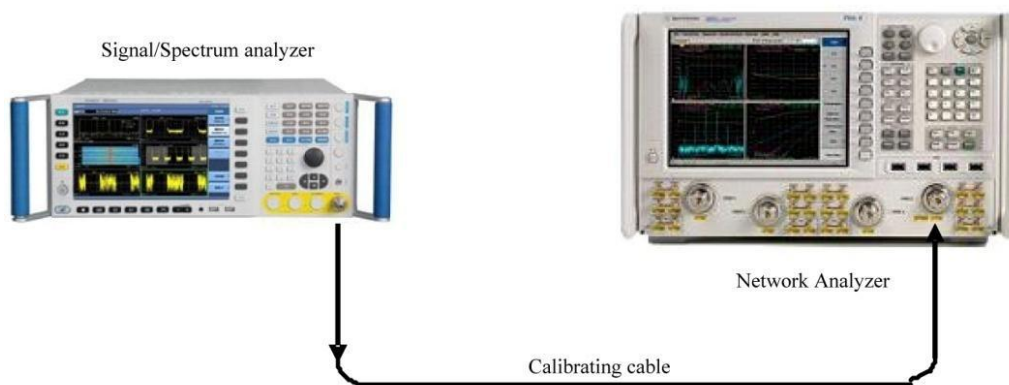

Fig. 8.12 Schematic diagram of input interface voltage standing-wave ratio test
- 1) Connect the instrument as shown in Fig. 8.12, reset the 4051 analyzer and set it to provide frequency reference for the signal generator. Set the frequency of the signal generator as 30.02 MHz and the output amplitude as 0 dBm.